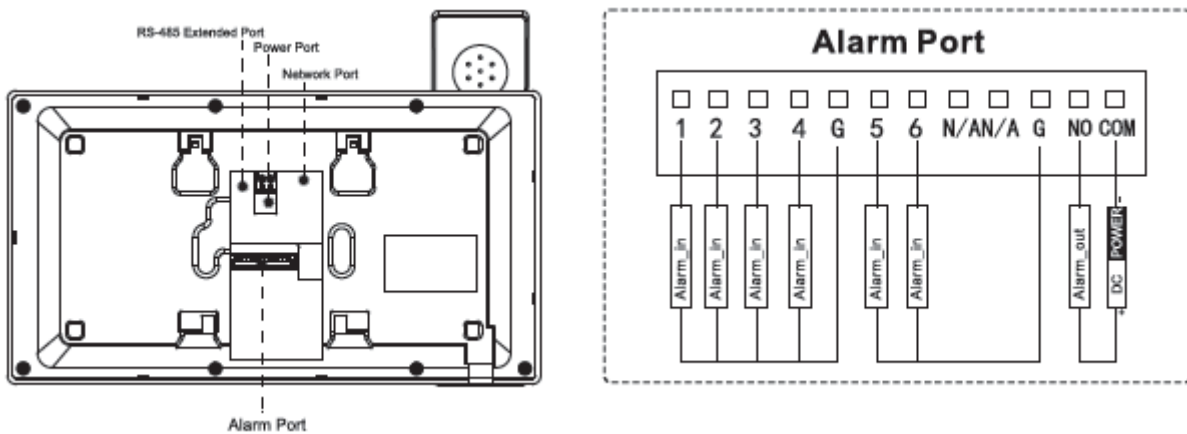

Figure 1-2
Rear panel of VTH5221E-H/VTH5221EW-H is shown in Figure 1-2.
Step 2 Please connect wire by reference to Figure 1-2.